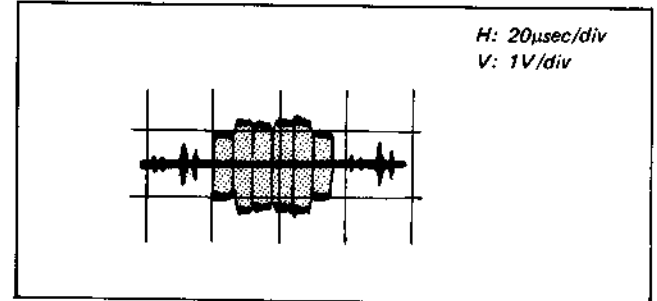

Fig. 4-26. Level check of chroma signal
- (1) Supply the VTR with the colour bar signal and set up the E-E mode.
- (2) Check that the chroma signal level at TP20 (pin 8 of IC2) is approximately 1.5 Vp-p. (See Fig. 4-26). TRIG: EXT { TP28 (pin 6 of IC5)}